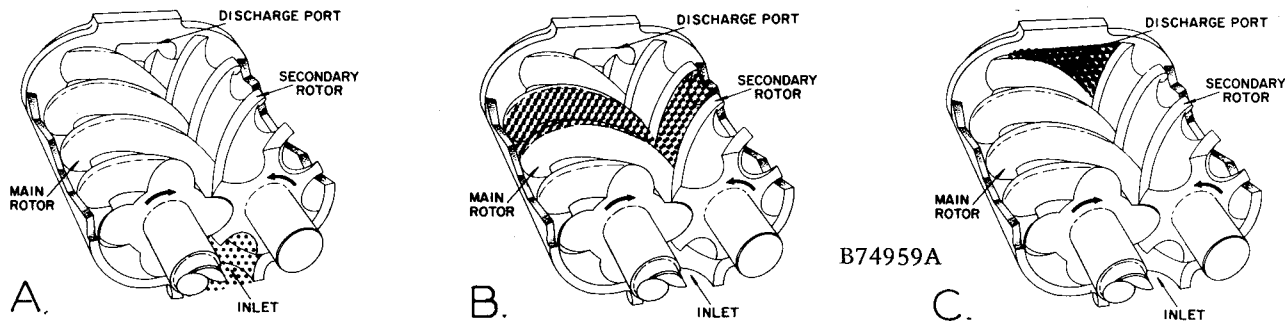

FIGURE 1-1. — COMPRESSION CYCLE
COMPRESSION PRINCIPLE (Figure 1-1) — Compression is accomplished by main and secondary rotors synchronously meshing in a one-piece cylinder. The main (driven) rotor has four helical lobes 90° apart. The secondary (idler) rotor has six matching helical flutes 60° apart to allow meshing with main rotor lobes.
The air inlet port is located on top of the compressor near the drive shaft end. The discharge port is near the bottom of the opposite end of the compression chamber. Figure 1-1 is an inverted view to show inlet and discharge ports. Compression begins as the rotors unmesh at the inlet port and air is drawn into the cavity between the main rotor lobes and the secondary rotor flutes (A). When the rotors pass the inlet port cutoff, air is trapped in the interlobe cavity and flows axially with the meshing rotors (B). As meshing continues, more of the main rotor lobe enters the secondary rotor flute, volume is reduced and pressure increases. Oil is injected into the cylinder to remove the heat of compression and seal internal clearances. Volume reduction and pressure increase continues until the air-oil mixture trapped in the interlobe cavity by the rotors passes the discharge port (C) and is released to the oil reservoir.